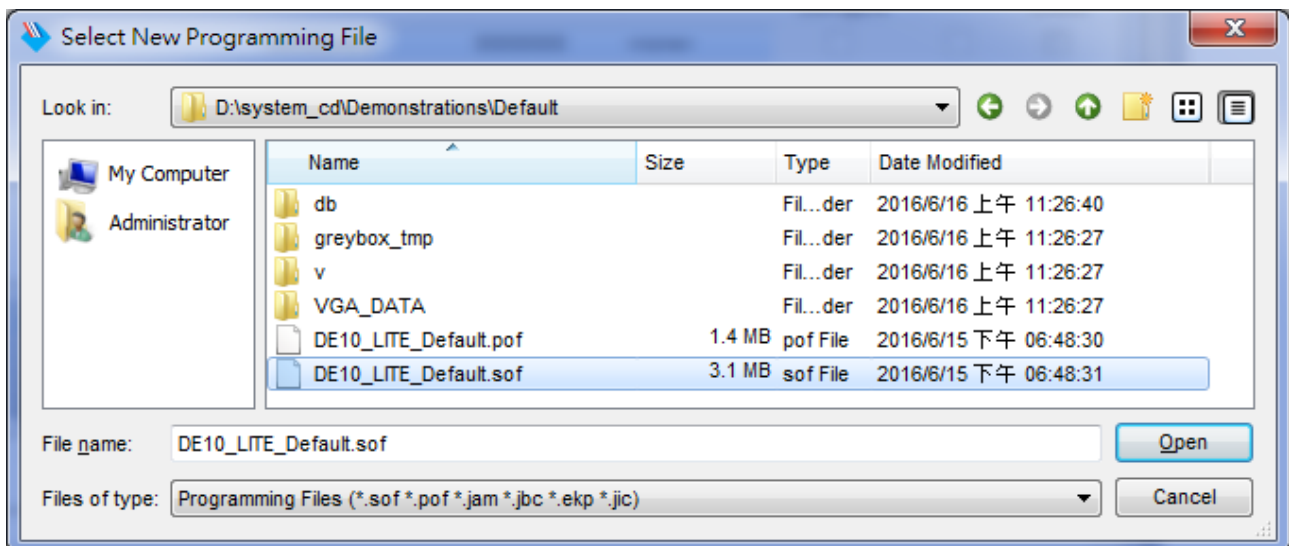

Figure 3-8 Select the .sof file to be programmed into the FPGA device
8. Select the .sof file to be programmed, as shown in **Figure 3-8**.